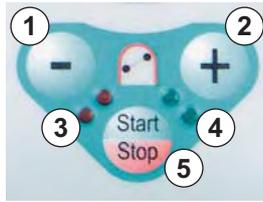

Fig. 3-9 Blood pump operating keys
The **- key** (Fig. 3-9, ①) and the **+ key** (②) lower or raise the delivery rate of the blood pump.